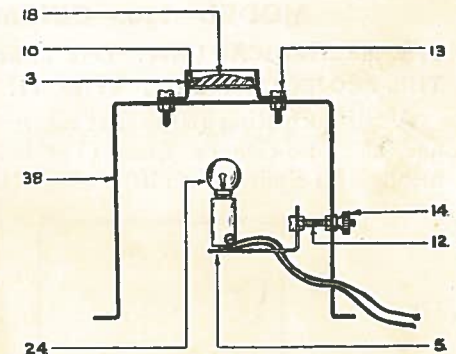

Fig. 8.
THE ILLUMINATION UNIT (Fig. 8.)
This consists of a Screwed Ring Mount (3) fitted with a Plano-Convex Lens (18) held in position with Split Ring (10) secured to an Instrument Stand (38) by $\frac{1}{4}$ in. Screws (13). By means of 1in. Bolt (12) with the necessary Nuts, a Lamp-holder (5), complete with Focus Electric Bulb (24) is fitted in position. Fig. 8 shows the assembled unit.